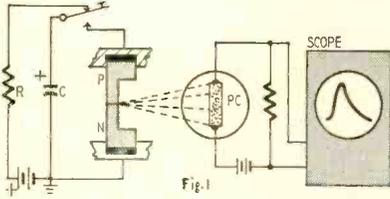

Fig. 1
In Fig. 1, C charges through R when the key is left up. When the key is depressed, C discharges through the p-n junction. Positive charges are injected into the n region of the semiconductor, preferably at a rate exceeding 10
Fig. 1 also shows how the radiation is detected. A lead sulphide photocell (PC) is energized by a battery. When radiation strikes the cell, electricity is generated. After amplification, it is fed to an oscilloscope with a synchronized sweep. The visible pattern indicates energy amplitude vs. wavelength.